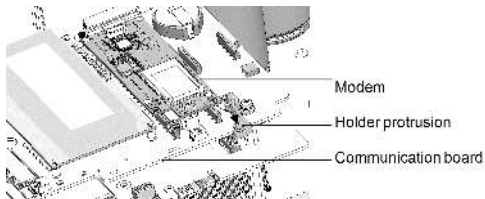

Figure 12: Installing the GSM modem on the holder
3. Locate the modem in its place on the communication board, as shown in *Figure 12*. Follow these guidelines: